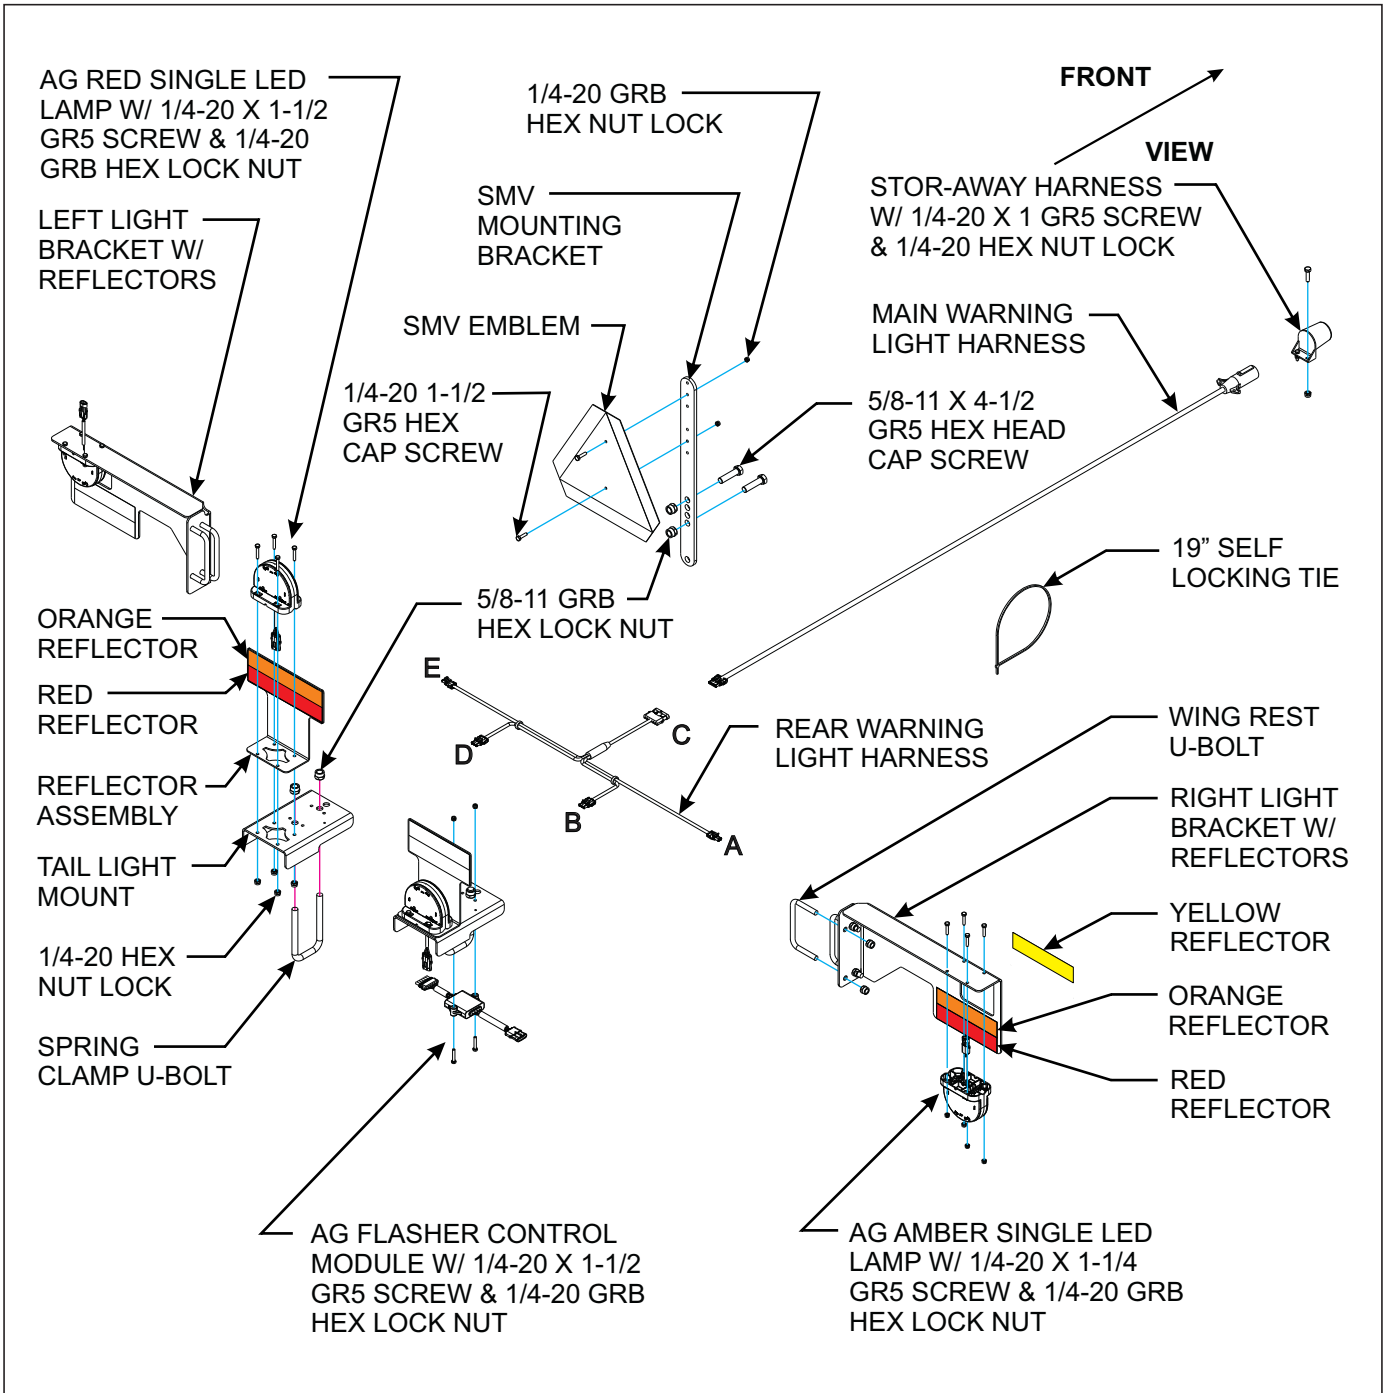

Figure 3-30: LED and SMV Bracket Installation
1. Assemble the SMV to the SMV bracket using 1/4 x 1 bolts and locknuts *See Figure 3-30*. On 19'-25' units assemble the SMV and bracket to the left of the rear center shank on the rear bar of the finisholl with u-bolt and 5/8 locknuts. For 27'-35' units assemble the SMV and bracket to the rear wing fold mount using 5/8 hex bolts and locknuts.